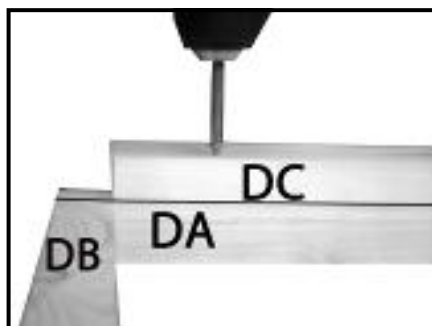

Fig B6
11. Fix to part **DC** to **DA** with 40mm screws (fig B6 &B7) important fix at both ends first ensuring that they stay flush then the screws in between again ensuring that parts **DA** &**DC** are flush as you go.